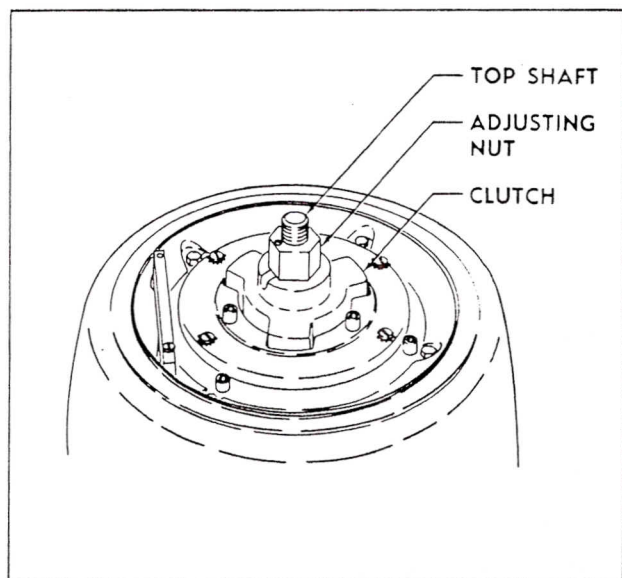

Figure 3-4. Adjusting Nut Installation
j. Install adjusting nut on top shaft (figure 3-4) and lightly tighten until it bears on motor clutch and slack is removed from shaft. Then continue to tighten nut until impeller reaches upper stop. Check axial movement against previously recorded measurement. Back off adjusting nut to lower impeller one half of axial movement. This locates the impeller centrally in the volute. Proper impeller location is necessary for correct balance and thrust in the pump.